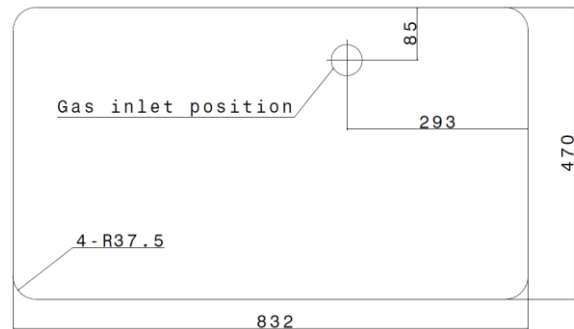

Fig.7 (in mm)
- Cut the opening in the bench top by the cardboard - template given in the hob packing or to the dimensions shown in Fig 7.
- Install the hob in the cut-out (Fig 7)